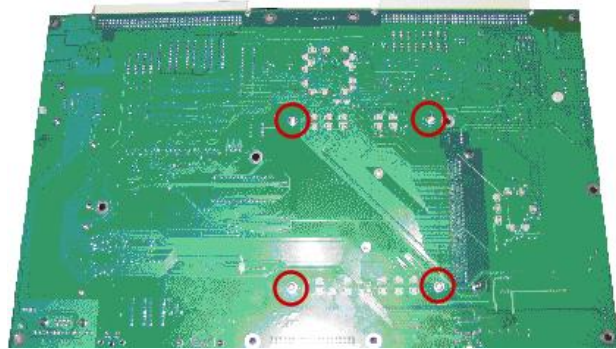

Figure 7: Removing the Heat Sink
- STEP 4:** Holding the components in place, carefully turn the motherboard over and replace the four heat sink screws and washers. Refer to Figure 7 if necessary.